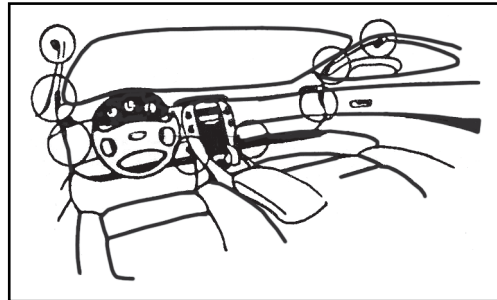

Fig. 1
- * Refer to Fig. 1, which shows suggested location for mounting the sensors.